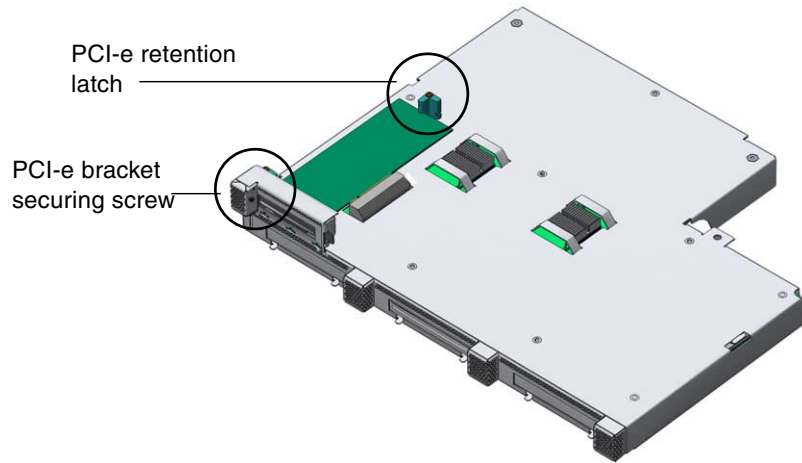

FIGURE 3-67 PCI Tray (flipped over) and PCI-E Card Securing Screw Location
2. Flip the PCI tray over, place on an antistatic mat, and loosen the PCI-E card securing screw (FIGURE 3-67).
- 2. Flip the PCI tray over, place it on an antistatic mat, and loosen the PCI-E card securing screw (FIGURE 3-67).**